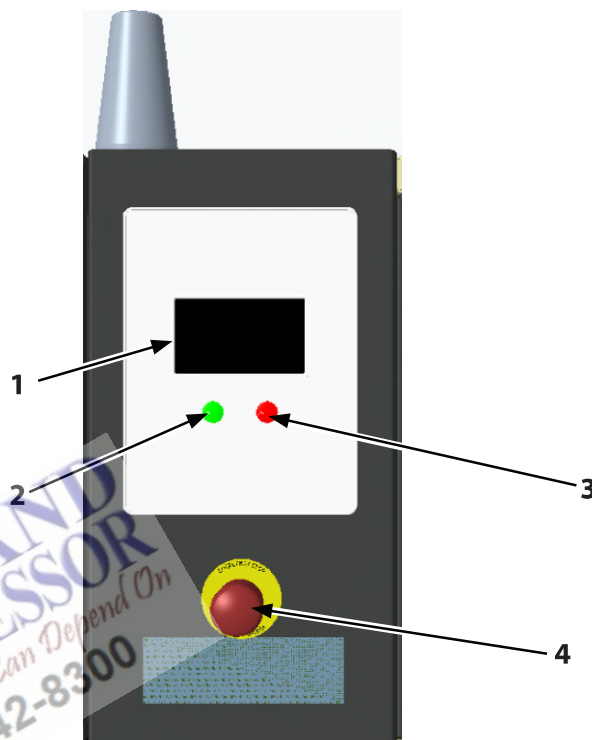

Figure 25: Controller Display
For switching the compressor off “normally”, use only the stop push-button (-3- Figure 25), but not the EMERGENCY STOP push-button (-4- Figure 25). After having been switched off, the compressor is after-cooled for 30 seconds (soft stop).
Press start button < I > (-2- Figure 25) on the control panel.
Press stop button < O > (-3- Figure 25) on the control panel, not the Emergency Stop button (-4- Figure 25).
The emergency stop button (-4- Figure 25) is located next to the compressor controller. It is used to immediately shut down the unit. Only use the Emergency Stop button to shut down the unit in emergencies.
- Press START button [I] (-2- Figure 25).
- To switch off the compressor in the usual way use the STOP button (-3- Figure 25) and not the emergency STOP button (-4- Figure 25). After shutdown the compressor has a run on time of 30-50 seconds (soft-stop). The time remaining is counted down on the display.